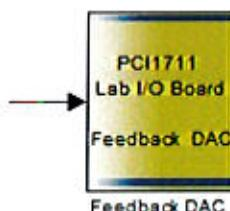

Figure 40 Feedback DAC Block
- There is one input to this block. The block reads the value from this input and sends it to the analogue output of the PCI-1711 card (Figure 40).